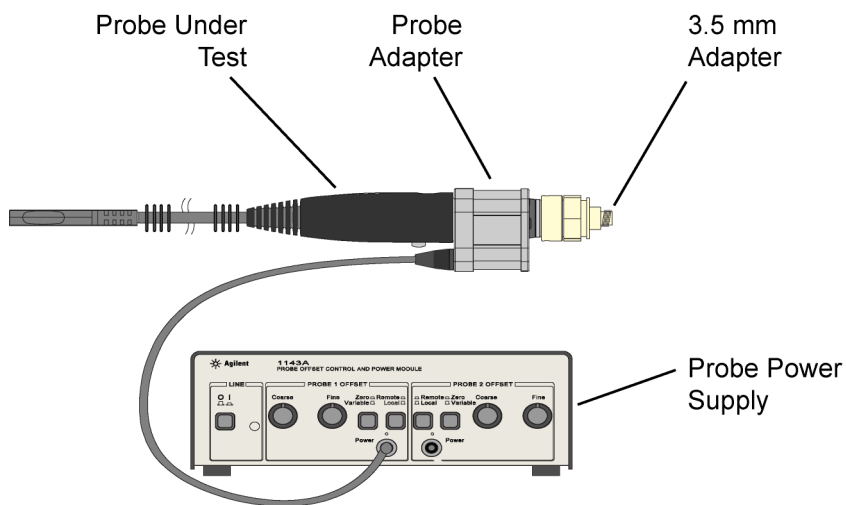

Figure 45 Probe Connected to Probe Adapter (*not to scale*)
- 16** Connect the equipment as shown in **Figure 45**.